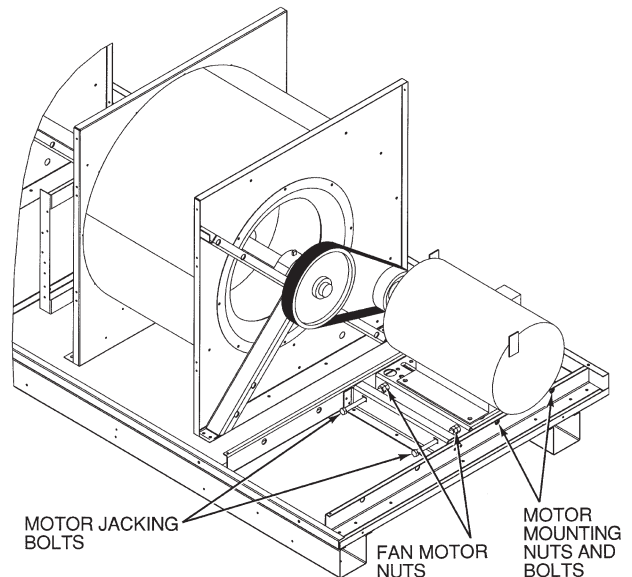

Fig. 42 — Belt Tension Adjustment
2. Loosen motor mounting nuts and bolts. See Fig. 42.